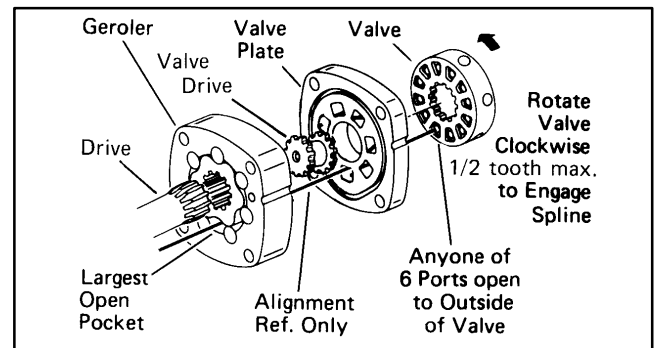

Figure 78
34. Align the notch on the outside of the valve plate with the notch on the Geroler as shown in Fig. 78.